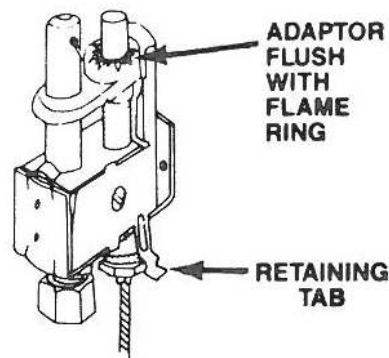

FIGURE 2
3. Push thermopile into PG9 pilot until the adaptor is flush with top of the flame ring. **NOTE:** For proper operation adaptor **MUST** BE flush. See figure 2.